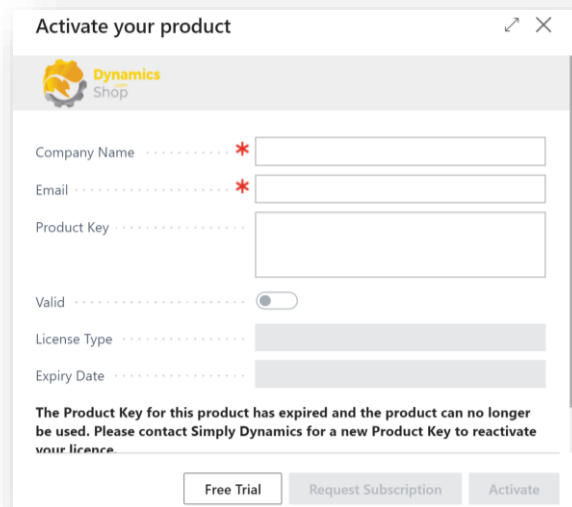

Figure 4-13
3. Choose **Free Trial** (Figure 4-13).